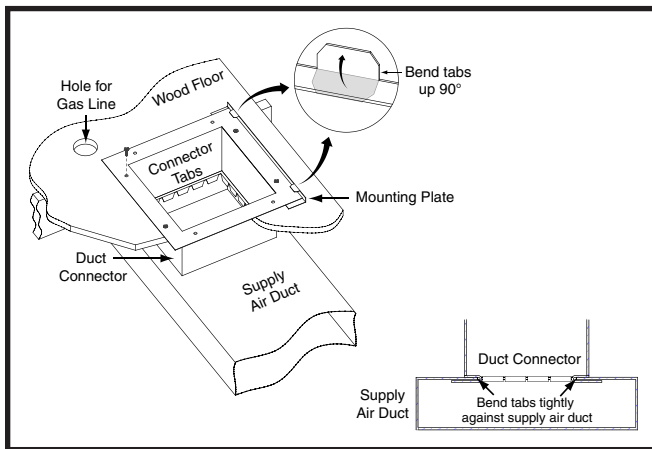

Figure 14. Duct Connector Installed
2. Mark the cut-out area on the supply air duct by tracing around the connector tabs (Figure 14 (page 16)) of the duct connector.
5. Install the mounting plate (Figure 14) under the back side of the duct connector. Align the screw holes in both components.
11. Bend both tabs on the mounting plate (Figure 14) up 90°.
4. Place the A/C coil box on the duct connector until the back side butts firmly against the mounting plate tabs. **NOTE:** Mounting plate tabs must be bent upwards as shown in Figure 14 \(page 16\) to prevent interference with furnace.